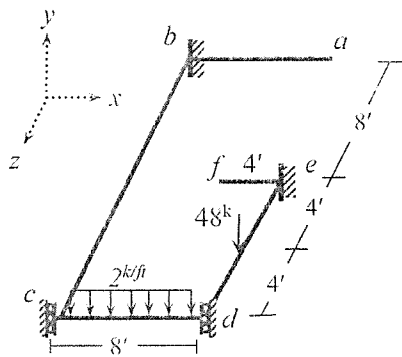

Fig.1
1. Use stiffness method to calculate deflections of joints  $c$  and  $d$  of the grid system  $abcdef$  loaded as shown in Fig.1